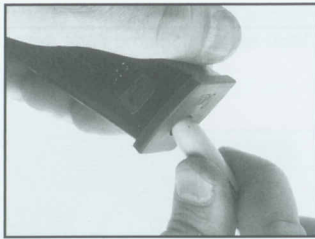

Figure 10
1. Using a blunt pointed instrument depress the locking detente located in the floorplate **and hold it there** (see Figure 10).
1. Using a blunt pointed instrument depress the locking insert detente located in the floorplate **and hold it there** (see Figure 10).